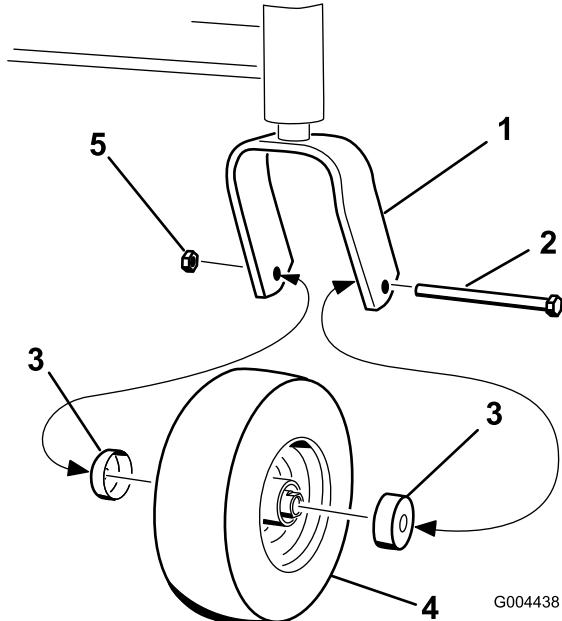

Figure 25
4. Remove the nut and bolt holding the caster wheel to the front caster fork (Figure 25).
5. Remove the seal guard from the wheel hub (Figure 25).
17. Install the seal guards over the wheel hubs and insert the wheel into the caster fork (Figure 25).
18. Install the caster bolt and tighten the nut (Figure 25).